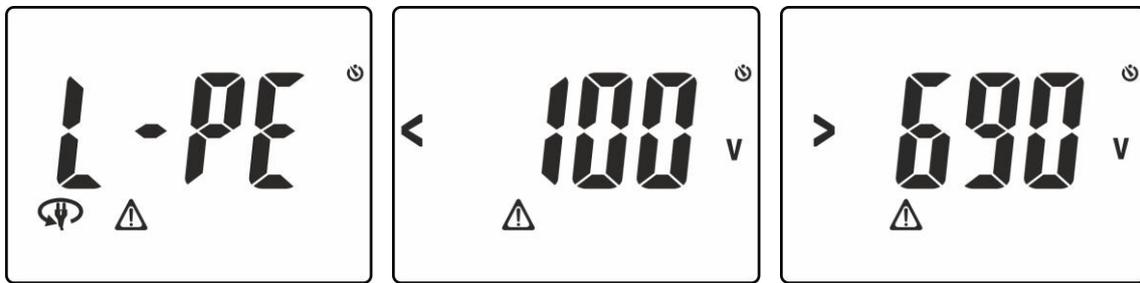
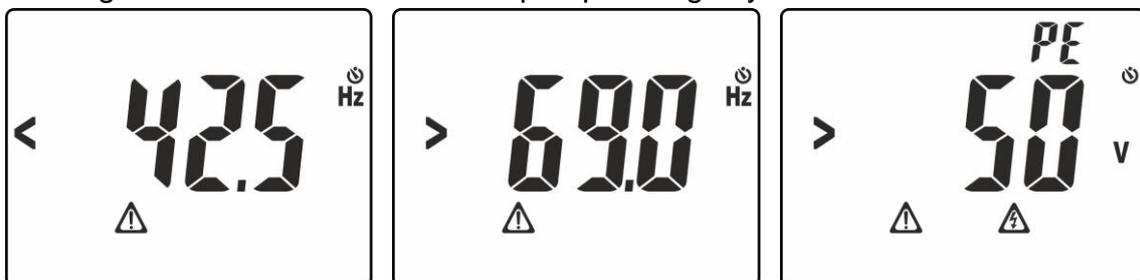
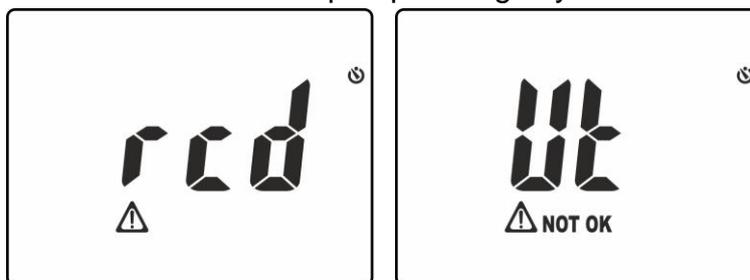

Fig. 19: Anomalous situations upon pressing key **GO/HOLD** – Screen 1
Fig. 20: Anomalous situations upon pressing key **GO/HOLD** – Screen 2
Fig. 21: Anomalous situations upon pressing key **GO/HOLD** – Screen 3
10. Press key **GO/HOLD** to activate the test. The screens shown in Fig. 19, Fig. 20 and Fig. 21 may appear on the display for a few seconds to signal anomalous conditions in which the instrument does not carry out the test.
8. Press key **GO/HOLD** to activate the test with polarity 0° . Press again **GO/HOLD** key with symbol  flashes on the display to activate polarity 180° . The screens shown in Fig. 19, Fig. 20 and Fig. 21 may appear on the display for a few seconds to signal anomalous conditions in which the instrument does not carry out the test.